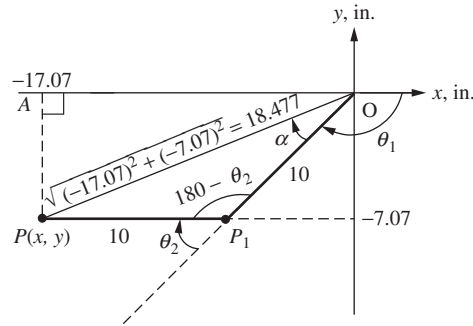

Figure 3.27 The triangle OP_1P used to find the angles θ_1 and θ_2 .
- (b) The angle θ_2 can be found using the law of cosines on the triangle OP_1P shown in Fig. 3.27. The unknown angle $180^\circ - \theta_2$ and the three sides of the triangle OP_1P are shown in Fig. 3.27. Using the law of cosines gives
Therefore, $\theta_2 = \cos^{-1}(0.707) = 45.0^\circ$ or -45° . Since the angle θ_2 is in the clockwise direction, $\theta_2 = -45^\circ$. Also, from Fig. 3.27, the angle $\theta_1 + \alpha$ can be determined using the right-angled triangle OAP as